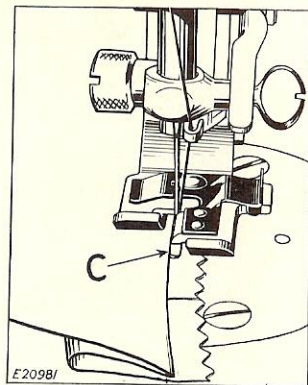

Fig. 24. Blended Circular Invisible Hem with Pinked Edge Being Blind Stitched
- G. Place the pinked or raw edge of the hem under the attachment with the fold against the guide C, as shown in Fig. 24. Adjust the guide C accord-